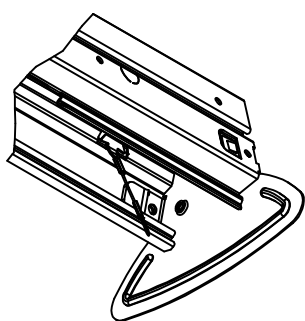

FIGURE 2: TETHER
- C. Secure LED board to housing by looping tether over "T" lance as shown in Figure 2.
- 6) Snap on LED board carrier by aligning screws in LED board carrier with notches in housing. Then pivot board carrier until opposite side snaps in as shown in Fig 2.